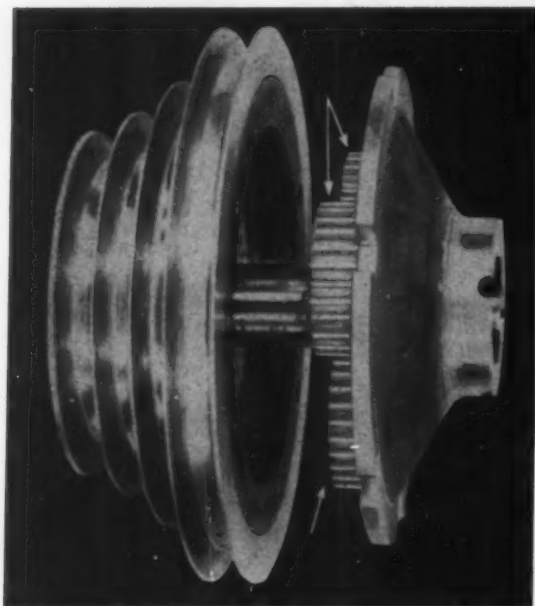

Fig. 1—Left — Resilient nylon planetary gears operate quietly and without lubrication. Driving and ring gears are both hardened steel
**RESILIENCY:** One of the fundamental properties of nylon is its resiliency. This property permits the designing of gears, Fig. 1, and other mating parts of nylon, and the machining of parts to no-clearance or interference fits. The material will "give" and conform to rough surfaces, yet spring